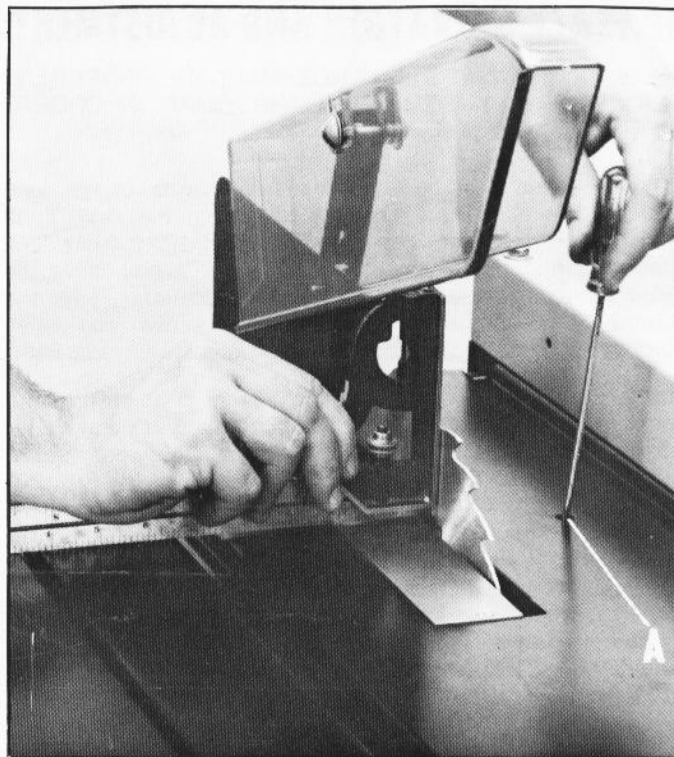

Fig. 23
Using a straight edge, check to make sure the table insert is flush with the table surface, as shown in Fig. 23. If an adjustment is necessary, bend the tabs where the insert is fastened, until the insert is flush with the table surface.
3. Place a square on the table as shown in Fig. 23, and check to see if the blade is at a perfect 90 degree angle to the table.
4. If the blade is not at 90 degrees, back off set screw (A) Fig. 23, and turn the tilting handwheel until you are certain the blade is at 90 degrees to the table. Then tighten set screw (A) Fig. 23, until it contacts the stop. Recheck and adjust further if necessary.